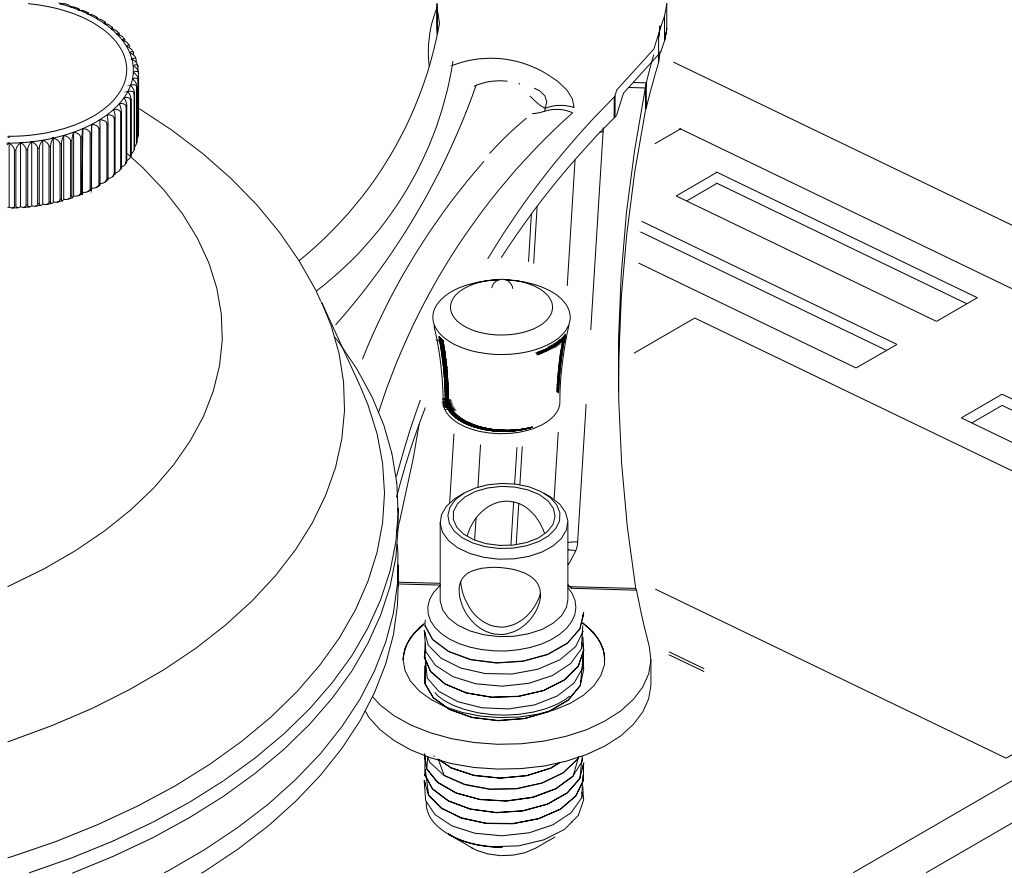

Figure 8. Plastic Cap Installation
1. Once all the final adjustments have been finished install the plastic caps on the leveling barrels (Figure 8).